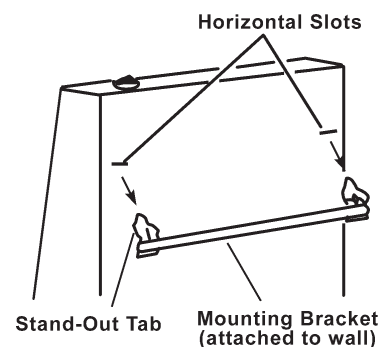

Figure 9 - Mounting Heater
1. Locate two horizontal slots on back panel of heater (see Figure 9).